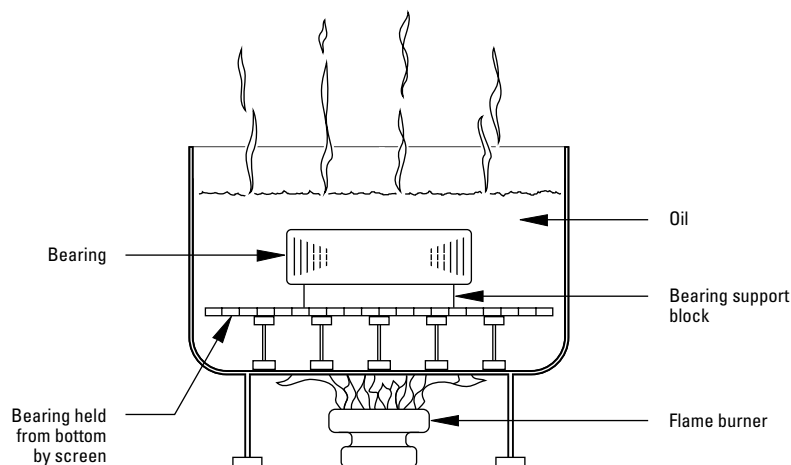

Fig. D-5. Heat expansion method.
- Accomplished by heating the bearing in a tank of oil that has a high flash point (see fig. D-5).
- The oil bath is shown in fig. D-5. The bearing should not be in direct contact with the heat source.